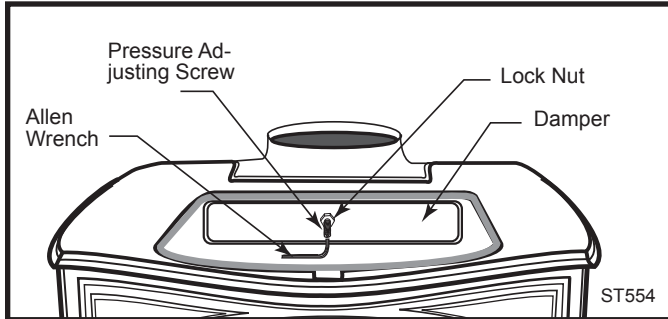

Fig. 42 Adjust the damper with the Allen wrench.
1. Remove the griddle. Loosen the lock nut at the center of the damper. (Fig. 42)